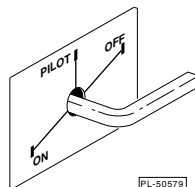

Fig. 2
2. Push gas valve extension arm in and turn arm to the OFF position (Fig. 2). Wait 5 minutes for unburned gas to vent.